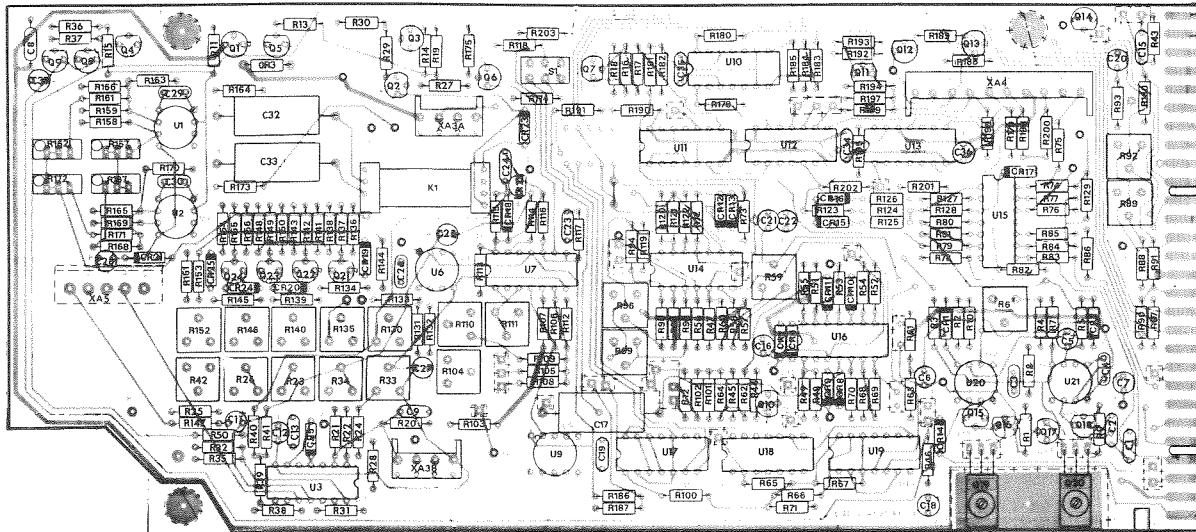

Figure 4-4. Sweep Generator PC Assembly
5. On 640G, connect DVM between pins 13A and 13B (Figure 4-4).
1. Referring to Figure 4-4, connect DVM to TP3.
#### 4-3.3 Frequency Instruction Adjustments (Figure 4-4)
#### **4-3.4 Oscillator Voltage Adjustments (Figure 4-4)**
6. Adjust +10 dBm Adjust R33 (Figure 4-4) until the lowest point of the RF trace is on top of the retrace line.
- e. On the 640G, adjust 0 dBm Adjust R34 until the lowest point of the RF trace is on top of the retrace line (Figure 4-4).
1. Adjust ALC Gain R23 and ALC Response R26 (Figure 4-4) to obtain a square wave response with the following characteristics: 20 $\mu$ sec rise time, < 10% overshoot of the square wave amplitude, and no ringing.